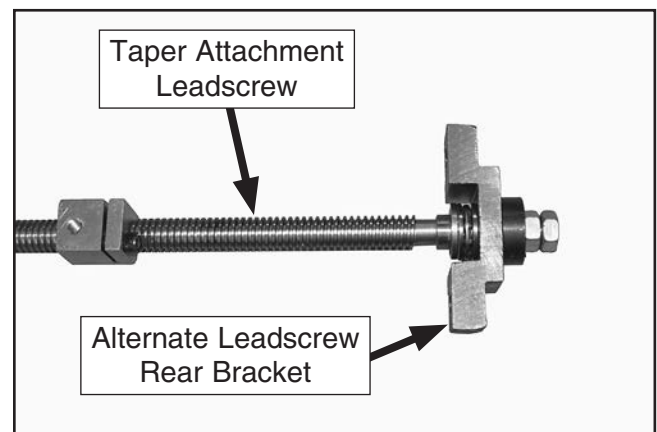

Figure 14. Alternate leadscrew rear bracket on taper attachment leadscrew.
20. If the alternate leadscrew rear bracket is installed on the taper attachment leadscrew (see **Figure 14**), then remove it now.